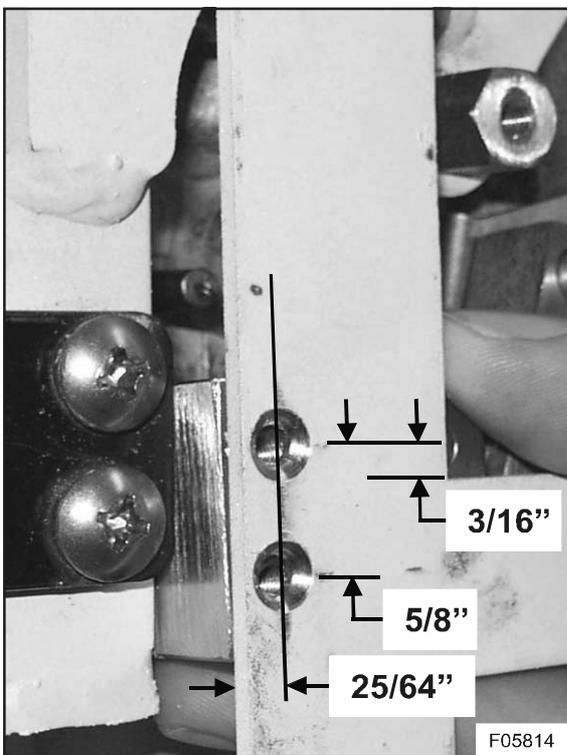
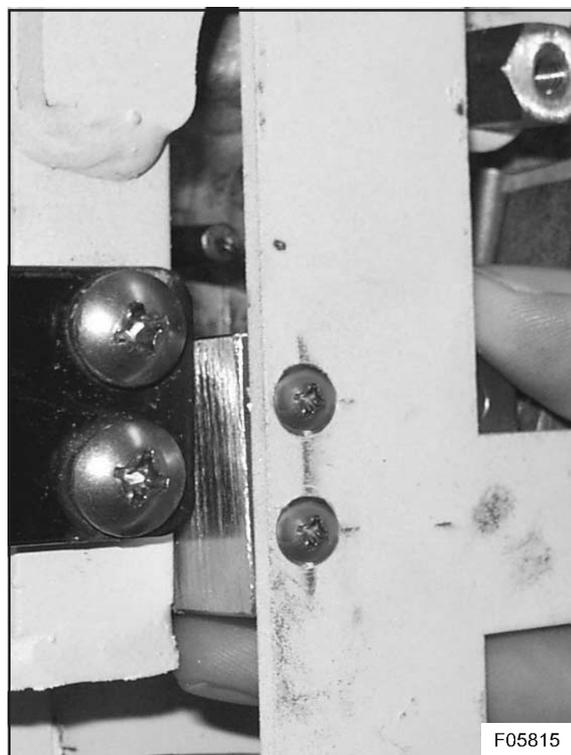

Figure 28: Drilling dimensions for door lock adapter linkage B base
Figure 29: Door lock adapter linkage base final installation
- 4) With a 5 mm drill bit, drill the mounting holes for the base of adapter linkage B and countersink for flat head bolts VH 10709078 (see Figure 28). Apply a few drops of Loctite 270.1 on the screw threads. Run up the bolts until finger tight, then tighten to a torque of 7 ft.lbf (10 Nm). Figure 29 shows the completed installation.